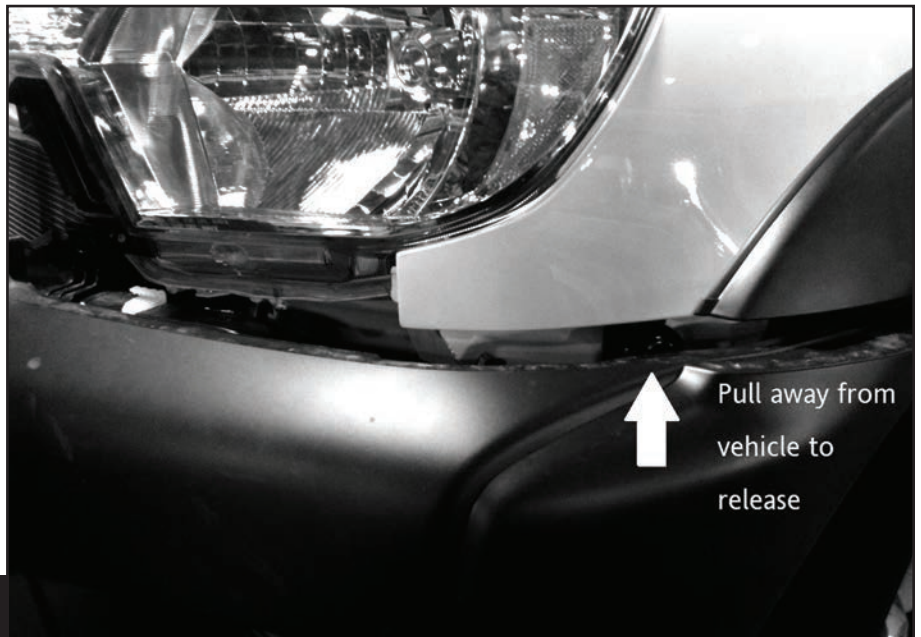

Fig 7
7. Pull Bumper cover off and discard. The cover will need to be gripped inside the wheel well and pulled away from the vehicle as there is a press in clip under the fender. Then the cover can be removed to the front of the vehicle after it is unhooked from the fender area (**Fig 7**).